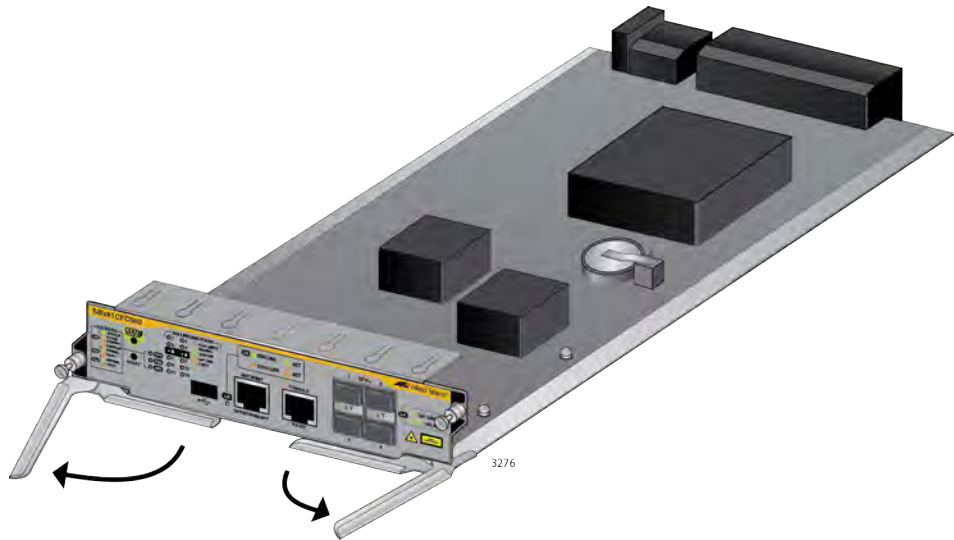

Figure 77. Opening the Locking Handles on the AT-SBx81CFC960 Controller Fabric Card
5. Move the locking handles on the front panel to the open position, as shown in Figure 77.